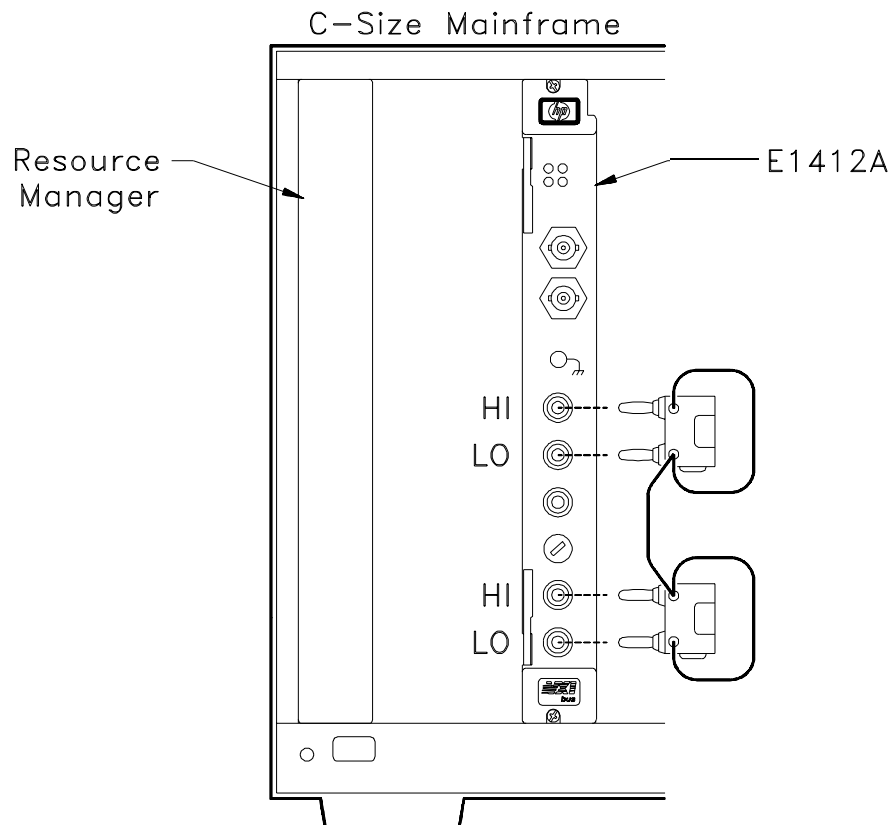

Figure 5-2. Zero Adjustment Test Setup.
1. Connect a 4-wire low thermal short across the HI and LO input terminals and HI and LO Sense terminals of the Agilent E1412A (Figure 5-2).